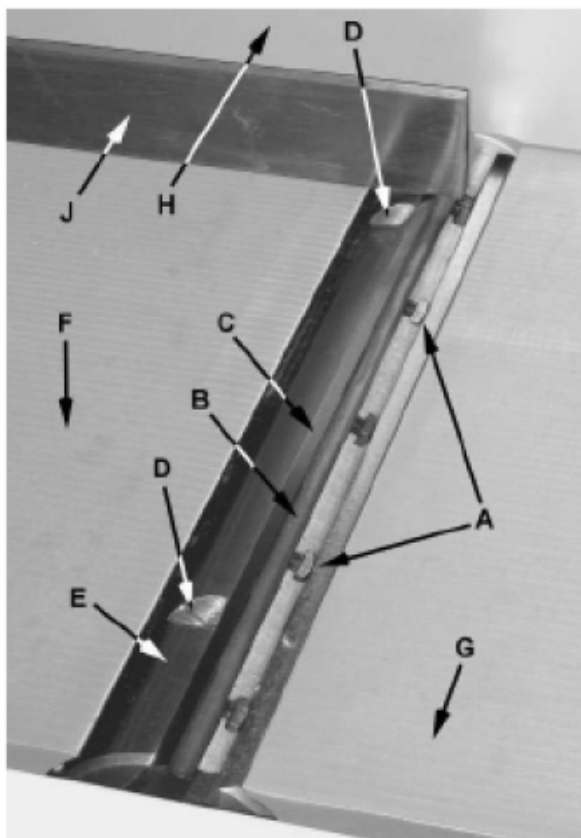
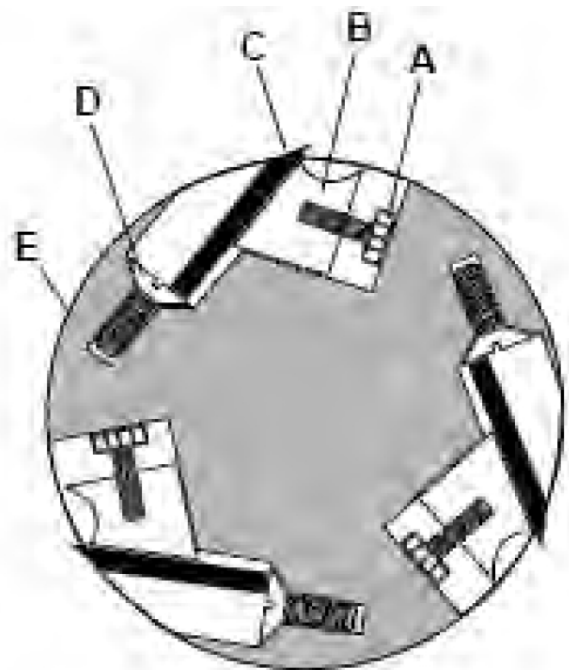

Fig. 14: Cutter head
Fig. 15: Cutter head cross-section
Step 3: Carefully number each knife blade (Pos. C, Fig. 14 and Fig. 15) with a magic marker to differentiate each.
Step 4: Rotate the cutter head (Pos. E, Fig. 14 and Fig. 15) and determine the 12 o'clock position of knife number one.
The 12 o'clock position is the highest point a blade will reach in the cutting arc (Pos. C, Fig. 15).
Step 5: Set a straightedge (Pos. J, Fig. 14) on the outfeed table (Pos. F, Fig. 14) near the fence (Pos. H, Fig. 14).
Step 6.1: Slightly loosen five gib lock screws (Pos. A, Fig. 14) by turning into the lock bar (Pos. B, Fig. 14), clockwise as viewed from the infeed table (Pos. G, Fig. 14).
Step 7: Adjust the knife height by turning jack screws (Pos. D, Fig. 14) upon which the knives rest. To lower the knife, turn the screw clockwise. To raise, turn the screw counterclockwise.
Step 8: When the knife is at the proper height, alternately tighten the five gib lock screws (Pos. A, Fig. 14).
Step 3: Turn all five screws (Pos. A, Fig. 14 and Fig. 15) into the lock bar (Pos. B, Fig. 14 and Fig. 15) by turning in a clockwise direction as viewed from the infeed table (Pos. G, Fig. 14 and Fig. 15).
Step 4: Carefully remove the cutter knife (Pos. C, Fig. 14 and Fig. 15) and lock bar (Pos. B, Fig. 14 and Fig. 15).
Step 7: Insert replacement knife (Pos. C, Fig. 15) into the knife slot, making sure it faces the proper direction.
Step 8: Insert lock bar (Pos. B, Fig. 15) and tighten just enough to hold in place.